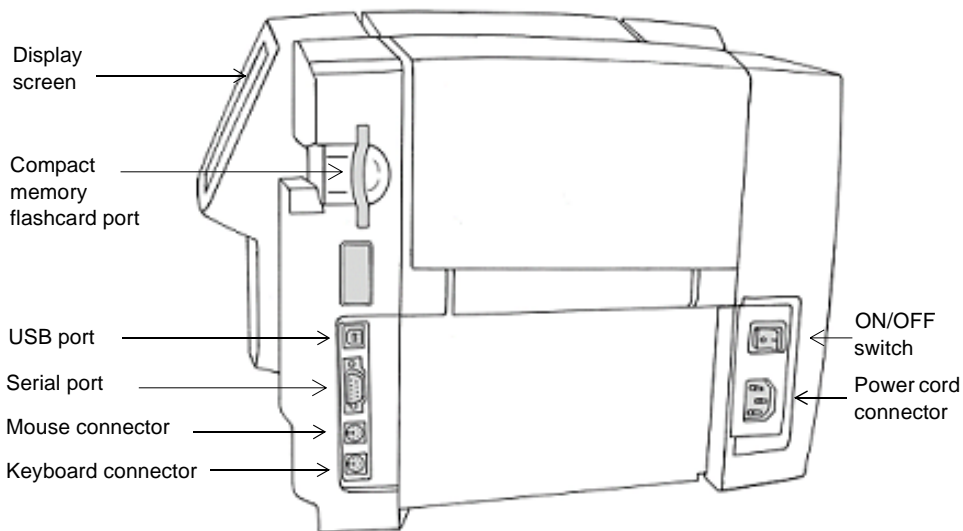

Figure 2-1. The label printer, side view.
- Step 2:** If you have a mouse, plug the mouse cable into the mouse connector, as shown in Figure 2-1
- Step 3:** Plug the power cord into the printer as shown in Figure 2-1. Plug the other end of the cord into an AC power outlet.